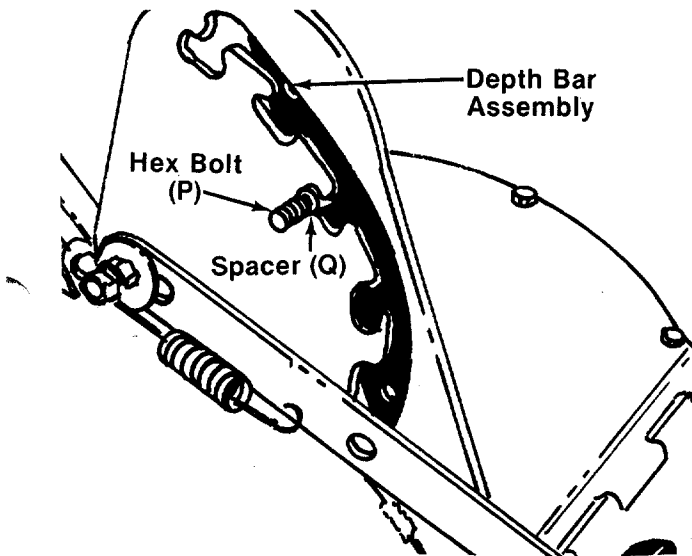

FIGURE 5.
5. Place hex bolt (P) through depth bar assembly and through notches in depth bar adjustment plate. Head of hex bolt must be to right side of the tiller. Place spacer (Q) on hex bolt. See figure 5.